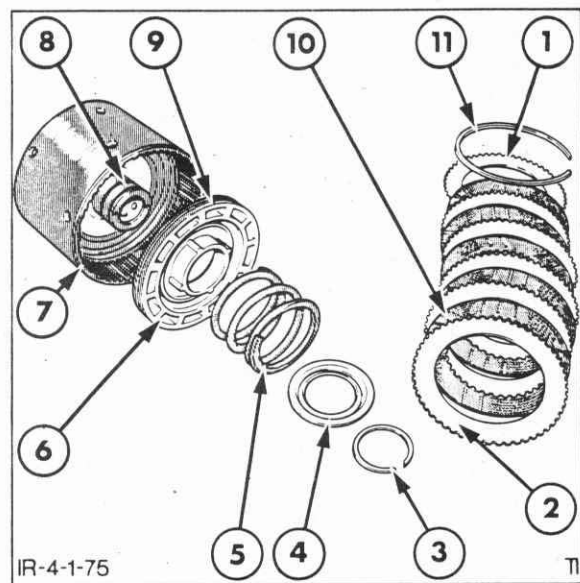

Figure 4-178
7. Remove the pistons (one in each end of the clutch housing) by directing compressed air into the oil passage in the hub of the clutch housing, Figure 4-178.